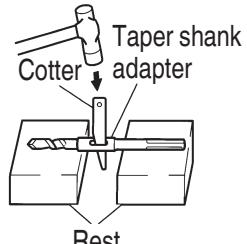

Fig. 11
- (4) To remove the drill bit (taper shank), insert the cotter into the slot of the taper shank adapter and strike the head of the cotter with a manual hammer supporting on a rest. (Fig. 11)